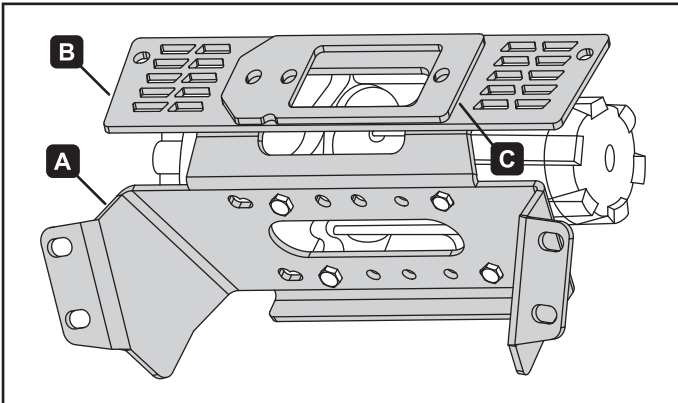

Figure 3. Standard winch mounting pattern
2. Attach your winch to the winch mount plate (A) with the hardware provided with your winch. There are three mounting patterns for different winch sizes. Refer to figures 3, 4 and 5 to determine the pattern your winch uses.